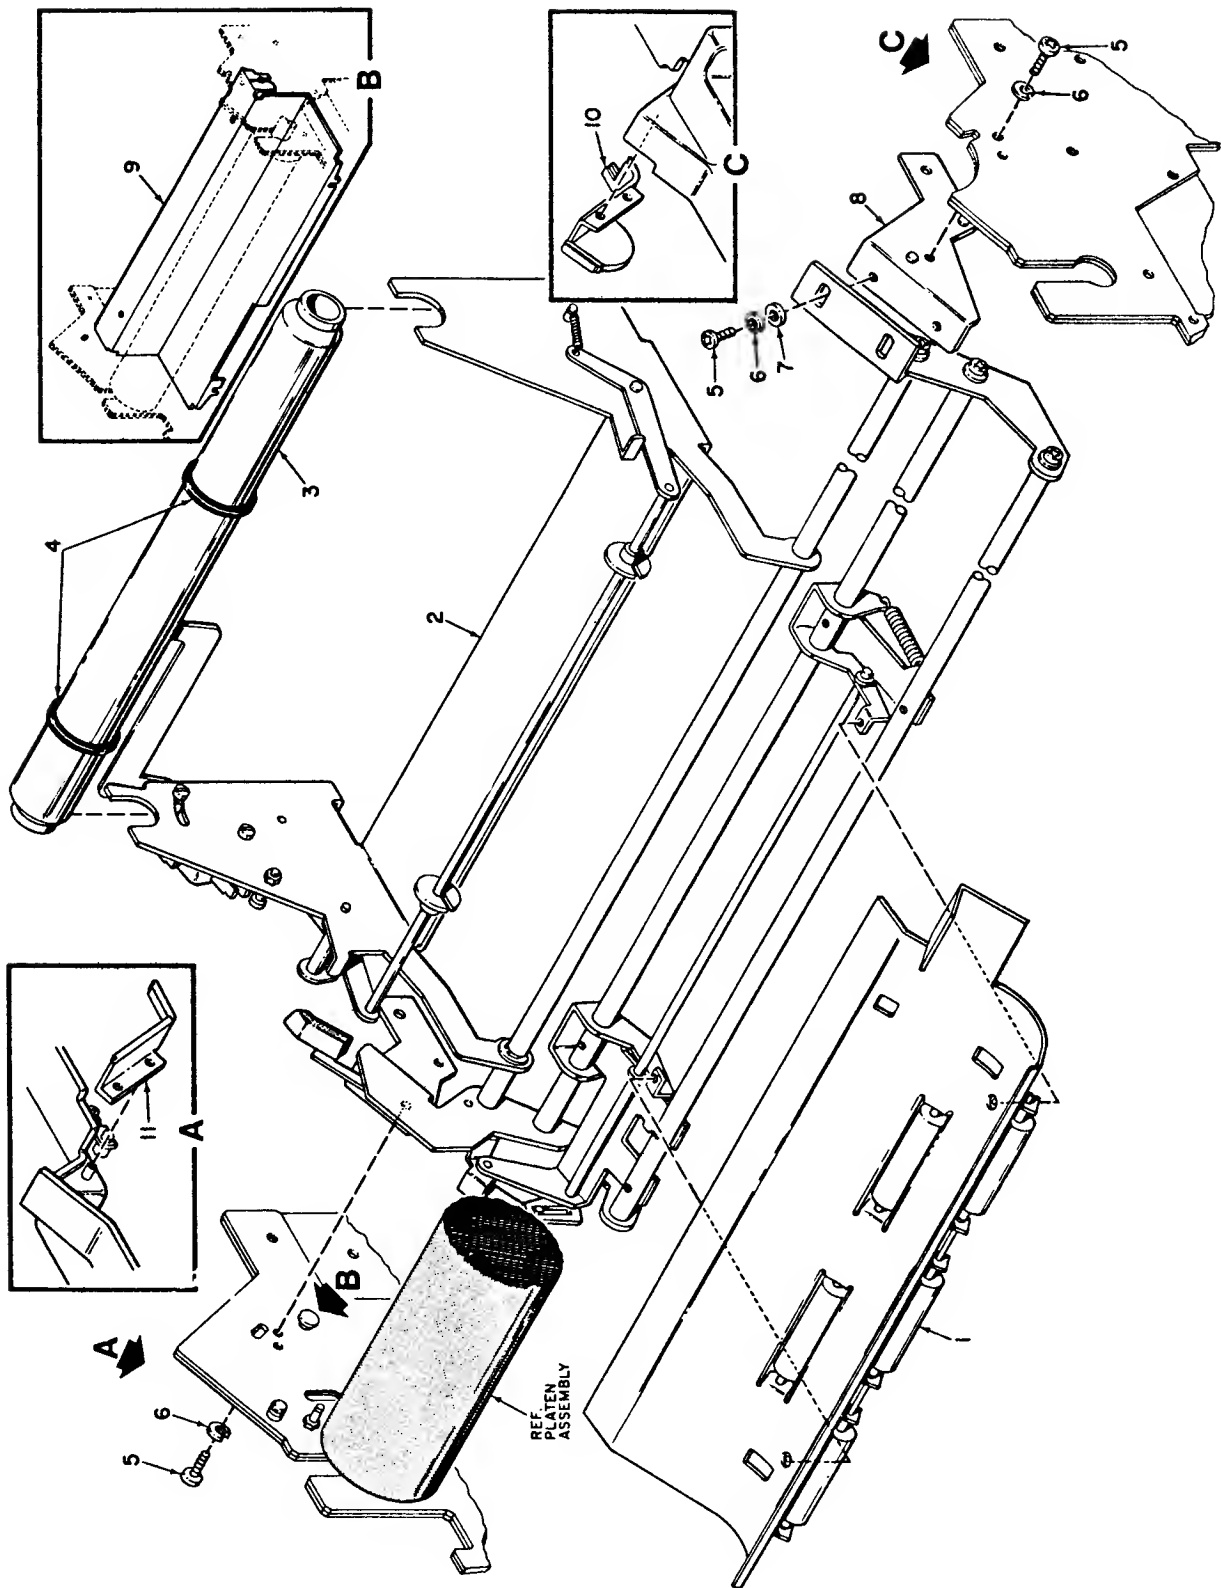

Figure 3-8A. KIT, PINCH ROLLER ASSEMBLY (26-1150)
3.11 PINCH ROLLER ASSEMBLY (26-1150 — Figure 3-8A)